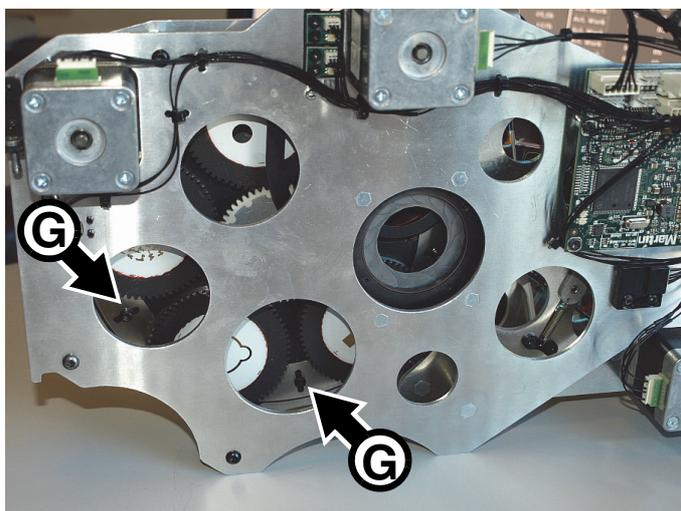

Figure 25: Goboholder retaining screws
- See Figure 25. Note the positions of connectors. First unplug the three CMY module connectors **B**. Then unplug the two effects module connectors **C**. Lift the module wiresets **D** with their rubber grommets out of the cutout in the head chassis and move the wiresets out of the way.
- See Figure 25. Loosen the two Torx screws **G** on the goboholder retaining clips on either side of the gobo and slide the clips outwards to release the gobo.
12. Slide the goboholder retaining clips back into position so that they engage in the groove in the goboholder. Tighten the screws (arrowed in Figure 25), adjusting the position of the clips carefully so that the goboholder is held securely. The gobo must be able to rotate freely but must not be loose. Rotate the goboholder several times with your finger after you have tightened the screws to check this, and adjust the position of the clips if necessary.